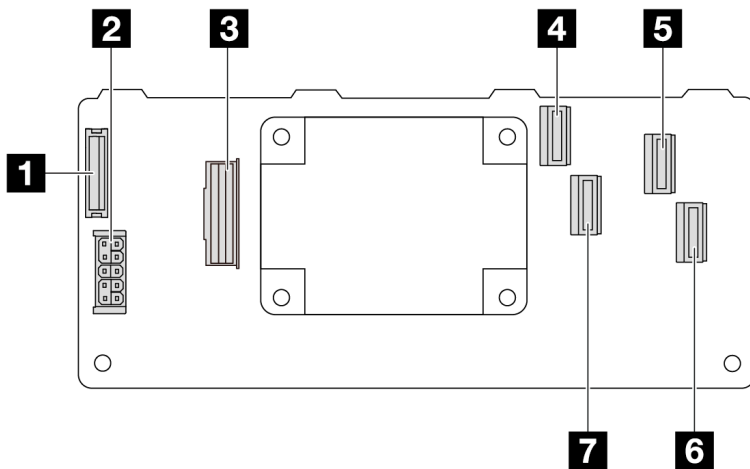

Figure 319. A Gen 3 16i CFF RAID adapter (four port connectors)
- Figure 319 “A Gen 3 16i CFF RAID adapter (four port connectors)” on page 342